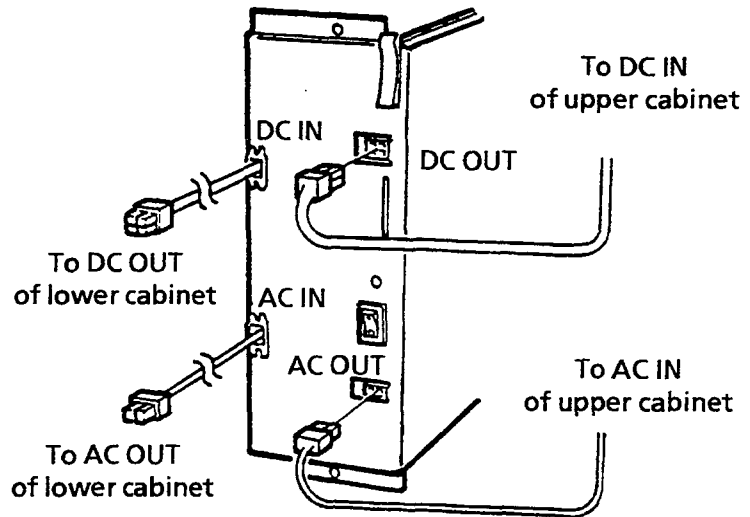

Figure 3-57 Connecting the PSUs in the Level II Advanced Expansion KSUs
2. Connect the AC IN and AC OUT and the DC IN and DC OUT of the respective PSUs. Refer to Figure 3-57 - Connecting the PSUs in the Level II Advanced Expansion KSUs.